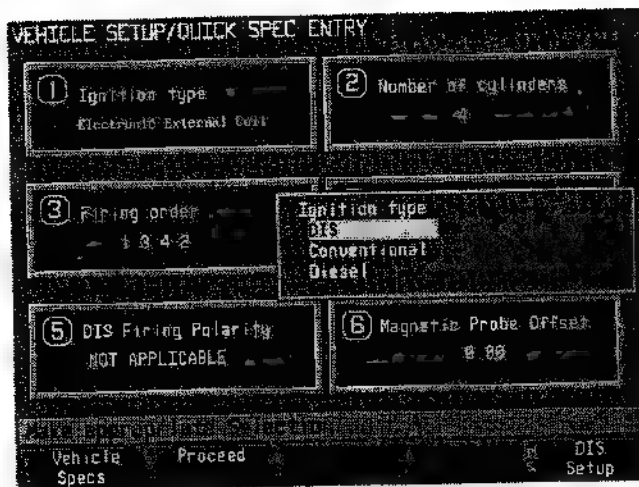

Figure 1-23
3. Press the number key which matches the specification that must be changed. A list of options for that number appears (see Figure 1-23).